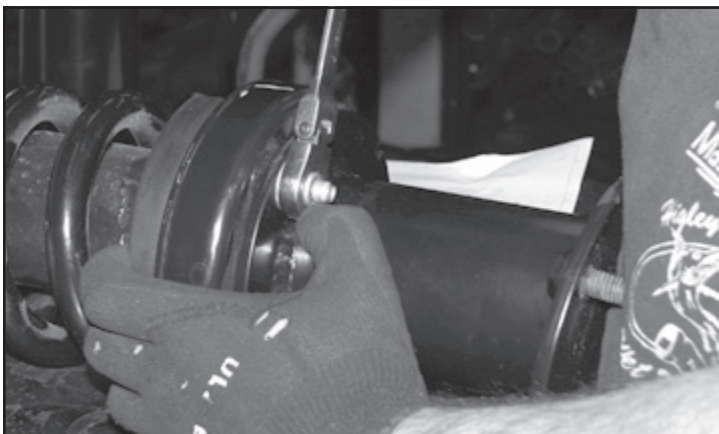

FIGURE 44 - STEP 44
44. Install the Driver side spacer on the driver side coilover using the factory hardware and torque to 35 ft-lbs. Repeat on the passenger side. **SEE FIGURE 44**